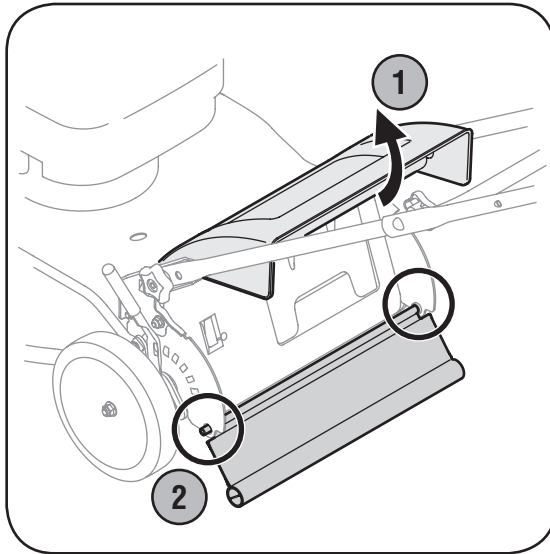

Figure 5-2: Replacing the rear flap.
2. Bend (bow) the rear flap inward on each side to release tabs from the holes in the handle mounting brackets. See Figure 5-2.